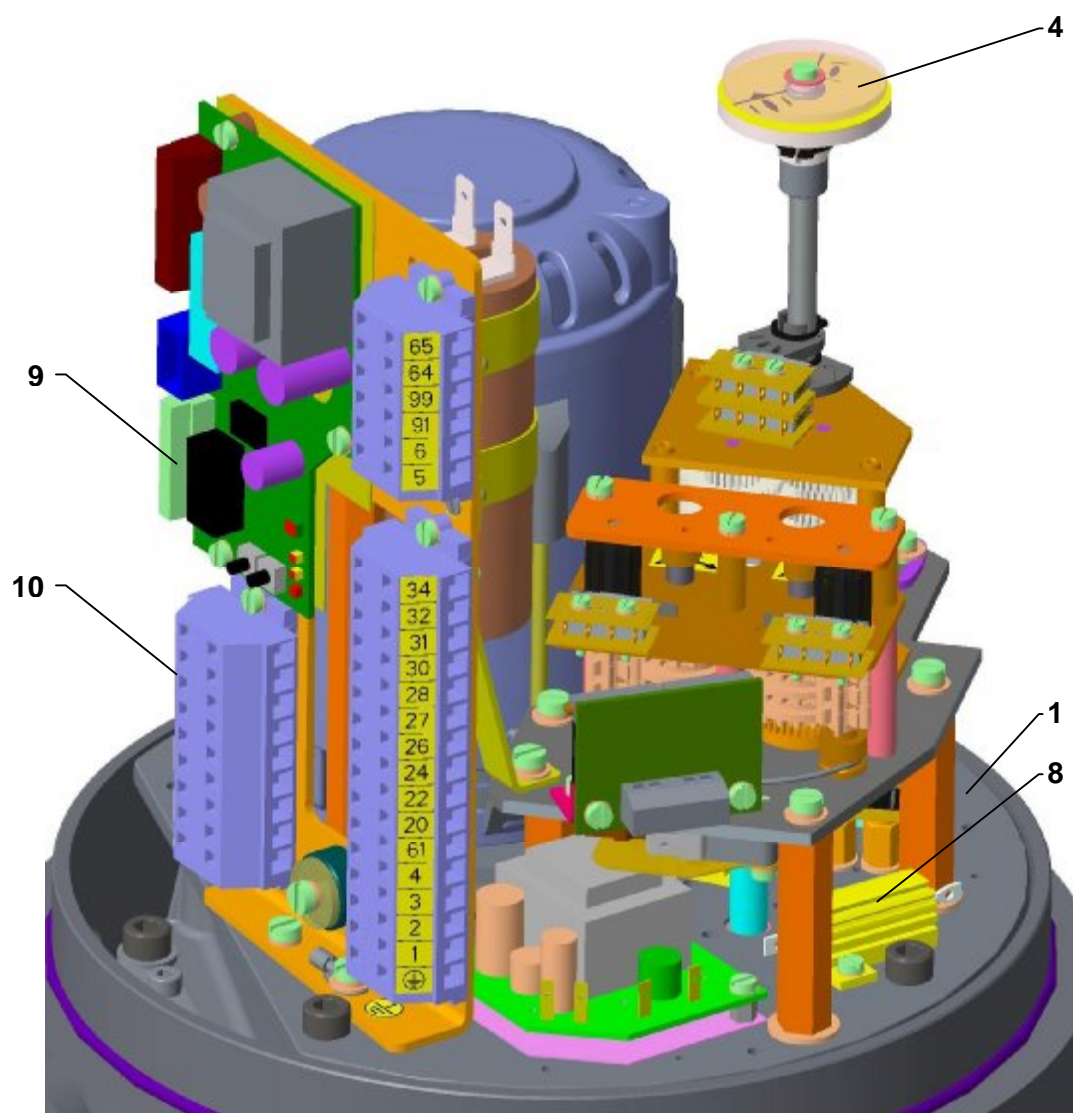

Fig.1
The **control part (Fig. 1, 1a)** is placed on a control board (1) consisting of:
- electric motor (2) (at single-phase version with capacitor)
- torque unit (5) (controlled with a worm axial shift)
- position-signaling unit (3) with a position transmitter (6) and with a mechanical local position indicator (4)
- space heater (8) with thermal switch (7)
- electronic module (9)
- electrical connection through terminal boxes (10), located in the control area and cable glands Ex d version with direct entry with compound filling around cable cores
- **relays of torque switch S1 or S2 (ReS11, ReS12) (12)** – customized version